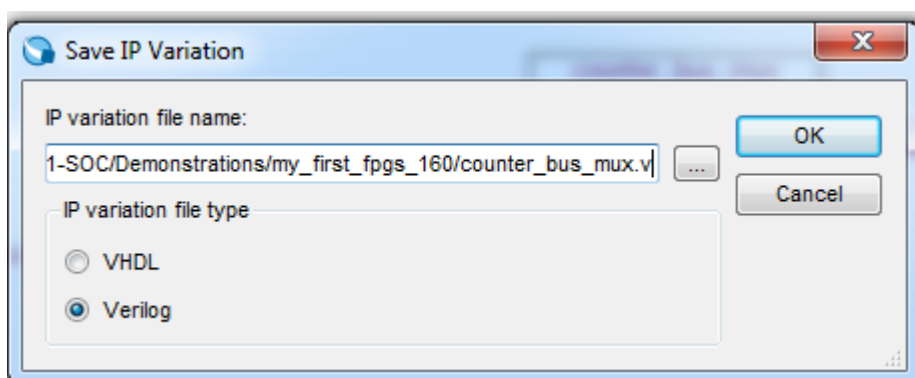

Figure 3-21 Save lpm_mux Variation
2. Choose Verilog HDL as the output file type, and name the output file counter_bus_mux.v (see Figure 3-21).